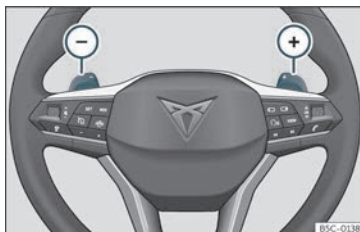

Fig. 143 Steering wheel: automatic transmission levers
- Press the gearshift paddle  to select a higher gear >>> **Fig. 143**.